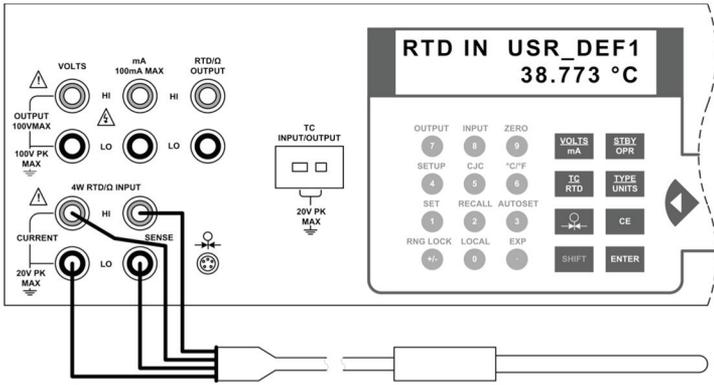

Figure 30 - Precision Temperature Measurement with Precision Platinum Probe
4. Connect the probe as shown in figure 30.